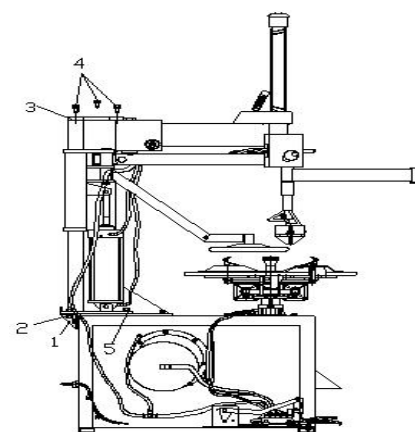

Fig 17
- 3) Mount the linkage (1, Fig 17) on the body; mount the help arm on the tyre changer with screw M10*25 (2/5, Fig 17);
- 4) Fix the linkage (3, Fig 17) on the column with screw M8*25;
- 5) Connect the air hose to the corresponding T-joint through the right hole of the body. (Fig 17)